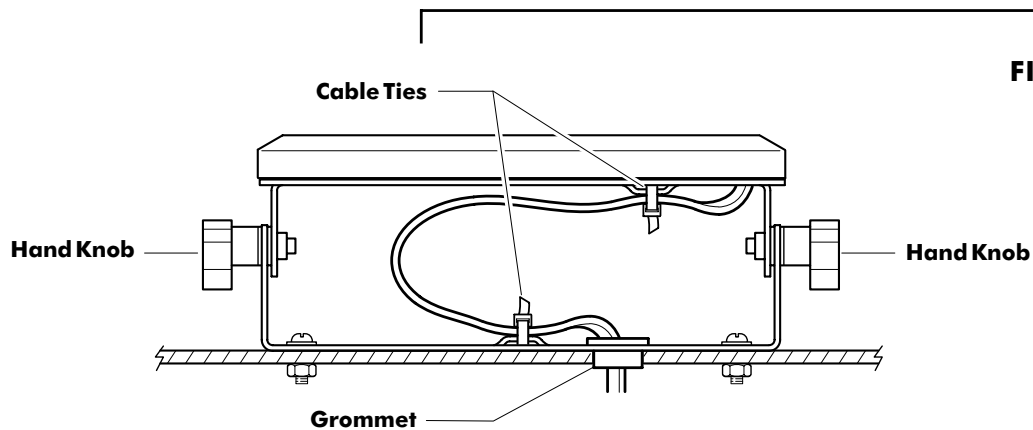

FIGURE 22:
42. Using the supplied cable ties secure the CA Cable to the bracket anchors as shown in (Figure 22).
43. Before installing the bracket to the mounting surface, drill a 3/4" hole at the wire location. Snap the grommet into the bracket as shown in (Figure 22) and then use the bracket as a template to mark the mounting holes.
44. Drill (4) mounting holes at 7/64" for #6 sheet metal screws or 9/64" for #6 machine screws.